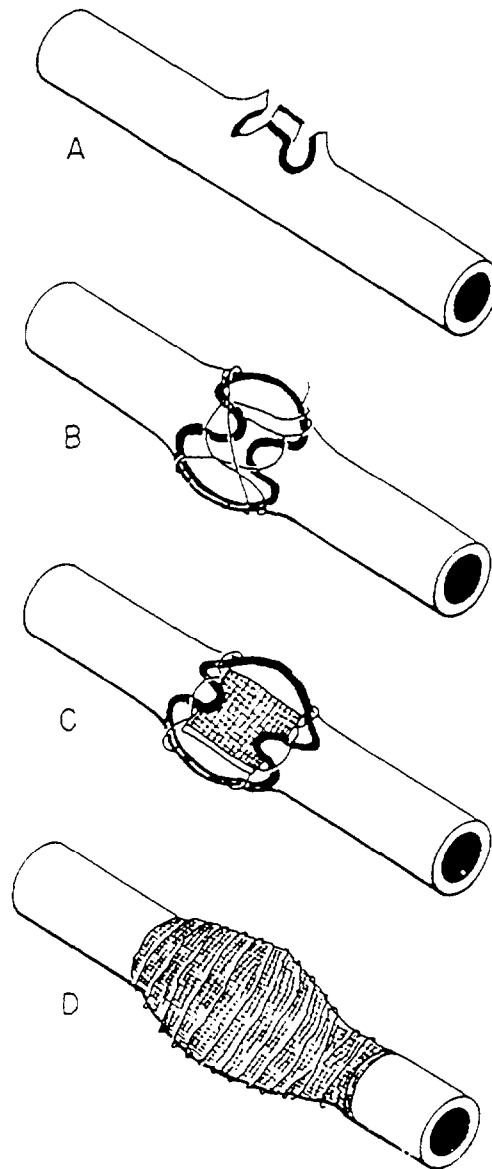

Figure 2-29.—Compound rupture patch, edges not removed.
Corn pound Patch.— When you are making repairs resulting from battle damage to piping systems, the compound-type rupture, as shown in figure 2-29, is the one you get most often. Since compound ruptures may take a variety of shapes, it becomes difficult to select a single example to fit all repairs. In most compound ruptures, it should be possible to simplify the rupture by removing butterfly edges or by cutting away the damaged section to form either a severed pipe or a simple pipe repair. When the butterfly edges or other projections cannot be removed by pounding in, cutting, or burning, a simple pipe patch may be applied with the following modifications:
1. Tie the chalk line firmly between the jagged edges (view B of fig. 2-29) crisscrossing as much as possible. This chalk line acts as a support for the woven roving cloth and keeps it from falling into the void. No void cover is used in this example as it would be impractical to cut a void cover to suit the jagged edges shown in view A of figure 2-29.
2. A small piece of impregnated woven roving cloth (view C of fig. 2-29) is folded and laid in the void where it helps to build up the mass and acts as an insulator.
3. Apply the woven roving cloth (view D of fig. 2-29) cut to the appropriate length and width over the small folded piece of woven roving cloth, and tie it firmly as outlined previously for the simple pipe patch.